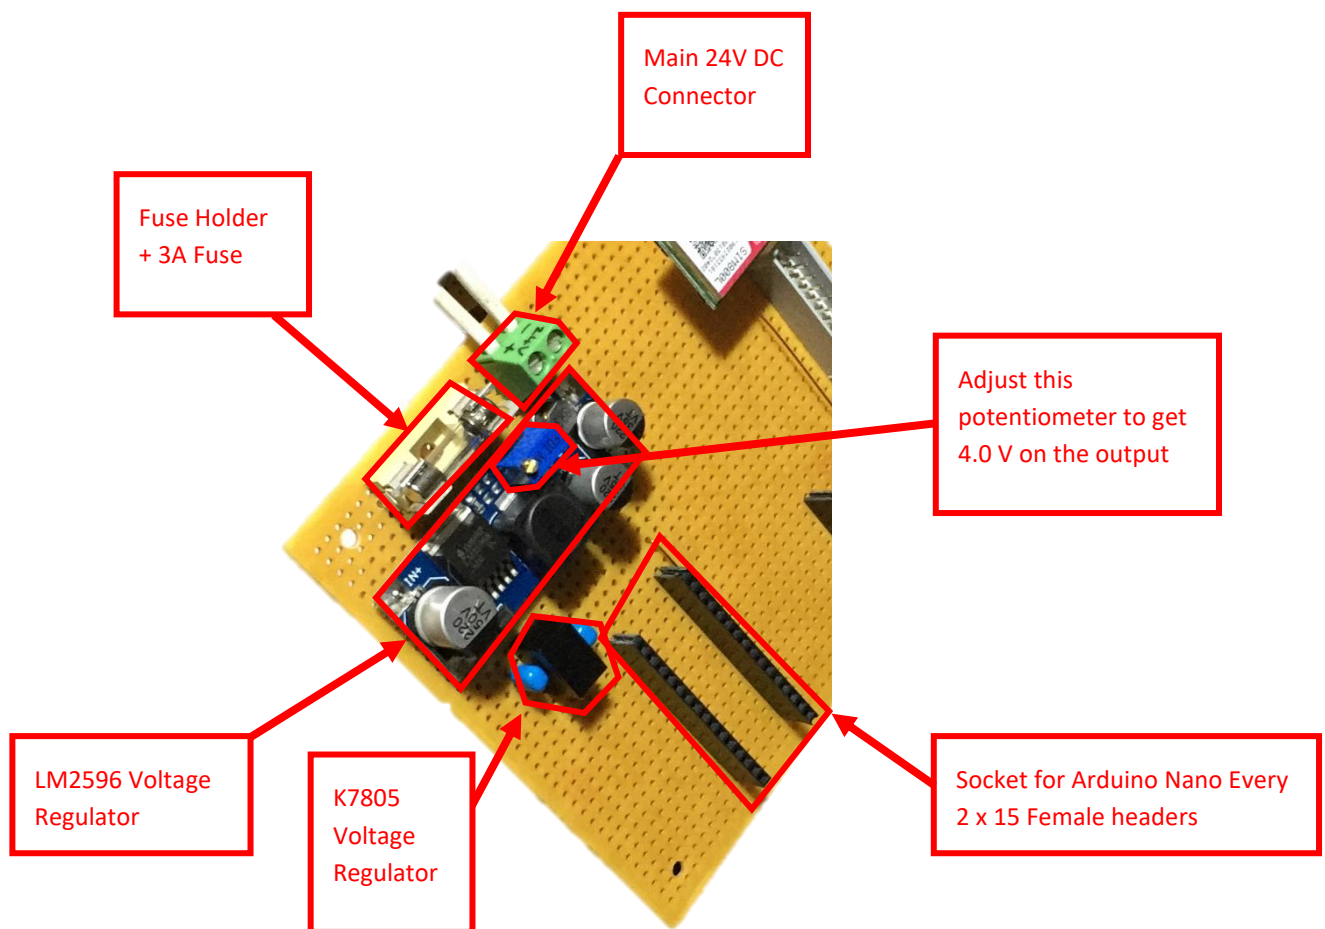

Figure 20 - Partially built Monitor for Stony Point
- Break one of the 30 pin female header strips in half, to obtain two 15 pin strips. Use these two strips as a socket for the Arduino Nano. See FIGURE 20 - PARTIALLY BUILT MONITOR FOR STONY POINT.